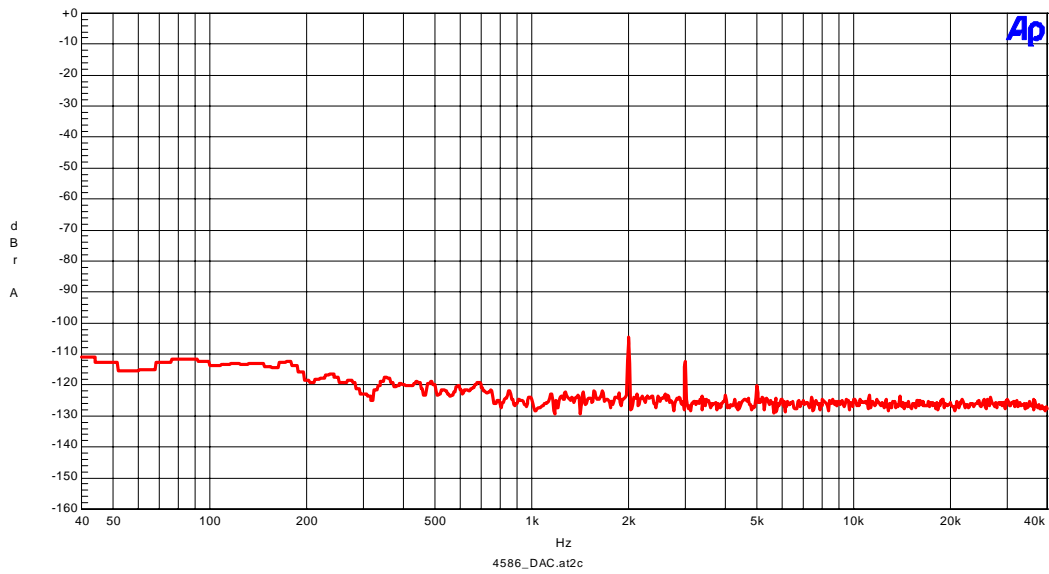

Figure 4-2. FFT (1kHz, 0dBFS input; Notch=ON)
- Figure 4-2. FFT (1kHz, 0dBFS input; Notch=ON)